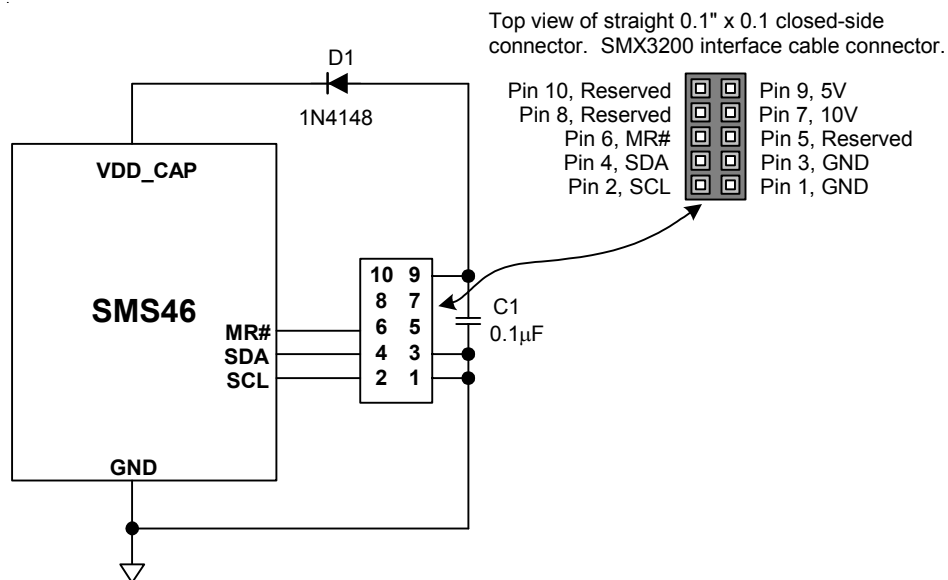

Figure 6 - SMX3200 Programmer I2C serial bus connections to program the SMS46.
The Windows GUI software will generate the data and send it in I2C serial bus format so that it can be directly downloaded to the SMS46 via the programming Dongle and cable. An example of the connection interface is shown in Figure 6.
2. Connector J1 is an SMX3200 (see Figure 6).